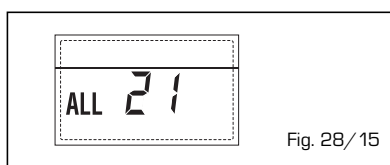

Fig. 28/15
**- INTERVENTO TERMOSTATO SICUREZZA SECONDA ZONA MISCELATA "ALL 22" (fig. 28/16)**